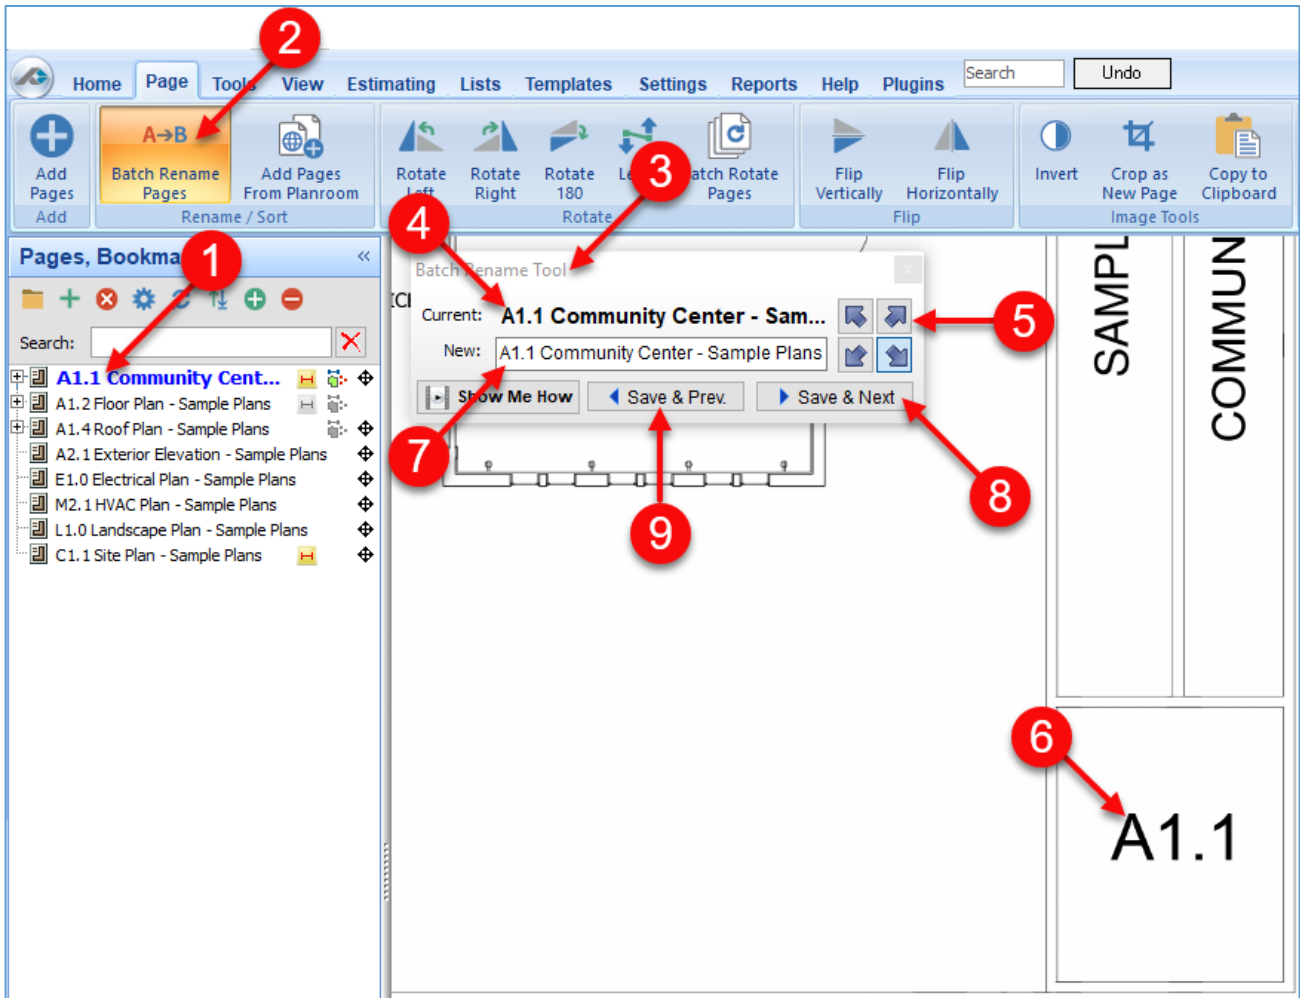

Figure 5-A
The **Batch Rename Pages** (Fig. 5-A) function makes renaming multiple pages easy. To rename several files:
6. Figure 5-A shows the bottom-right corner of the page selected.